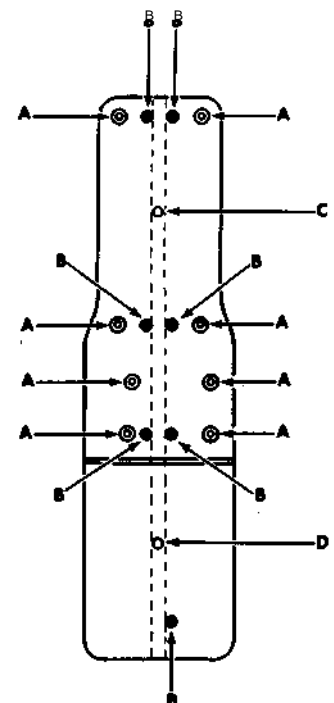

Figure 1. Backboard
- (1) Place the backboard (see Fig. 1) against the wall vertically (it is important that the backboard and the paystation are exactly upright).
- (2) Mark through holes B onto wall.
- (3) Drill holes, where marked, to take 1/4-20 anchors. Mount anchors in wall.
- (4) Push a loop of inside wire through backboard hole C.